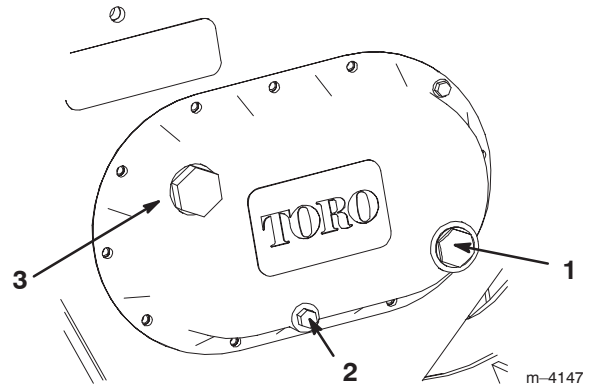

Figure 12
3. Check the clear glass gauge on the side of the gear case (Fig. 12). The gear lube should be at the level of the red dot in the center of the gauge.
4. If the gear lube level is low, remove the fill plug (Fig. 12) and fill the case with gear lube until it is level with the red dot in the gauge.
4. Remove the drain plug (Fig. 12), allowing the oil to spill out into the container.
6. Remove the fill plug (Fig. 12) and fill the case with gear lube until it is level with the red dot in the gauge.